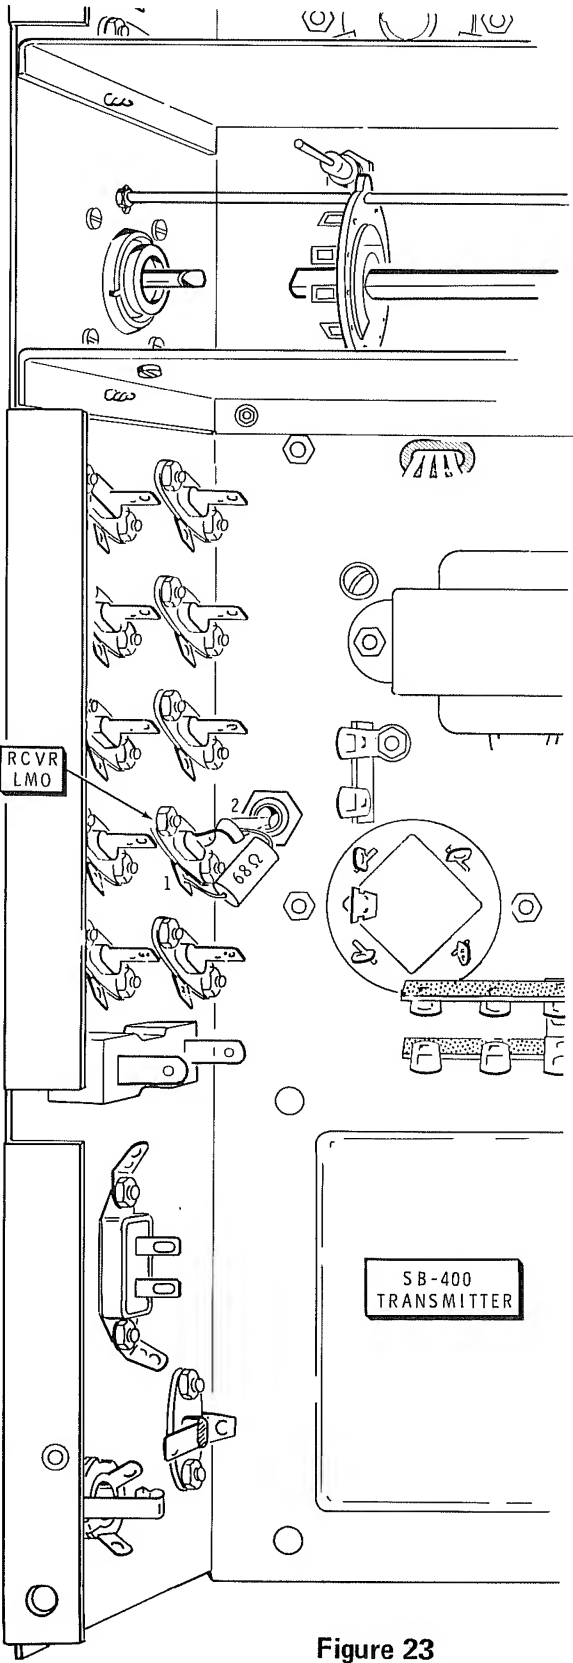

Figure 23
- ( ) Locate the RCVR LMO phono socket on the rear panel. Refer to Figure 23 and connect a 68  $\Omega$  (blue-gray-black) resistor from lug 1 to lug 2. Solder both connections.